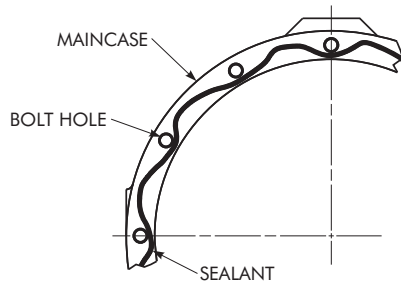

FIGURE 10
- b. Once the solvent has evaporated, apply sealing compound (Loctite 515 gasket eliminator or equivalent) to either the input hub or maincase sealing surfaces. Note, maintain a full film of sealant around the seal surface inboard of the bolt hole; reference Figure 10.